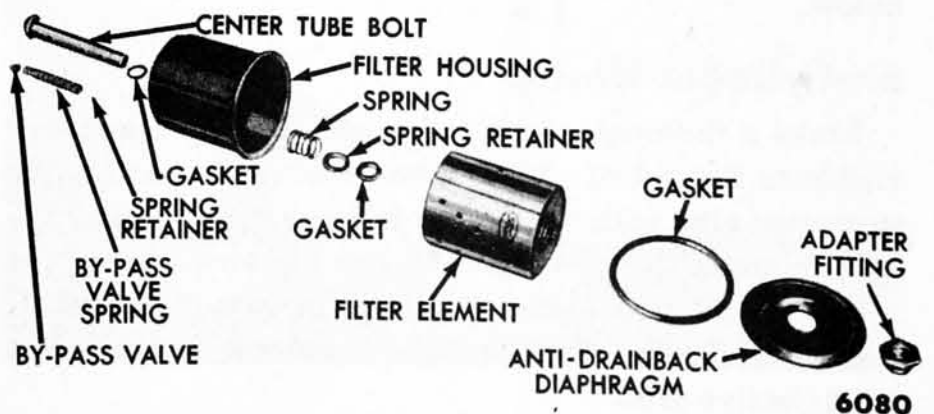

Fig. 33—Oil Filter—Disassembled—Metal Type Element Shown
(2) **DISASSEMBLY.** Remove the filter element, neoprene gasket (with metal type element only), spring, and seat, then remove the center bolt and fibre gasket from the cover. Discard the filter element and all gaskets. The oil filter is shown disassembled in fig. 33.